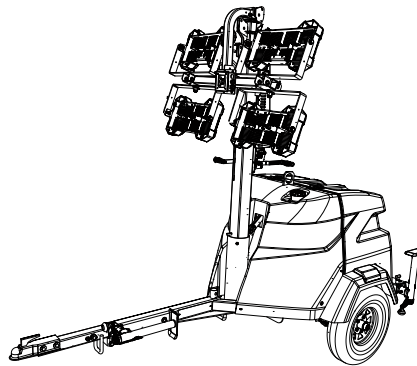

Figure 3-8. Stowed (Travel) Position
4. See Figure 3-8. If the unit is going to be moved, rotate the mast so the lights face the rear of the unit..